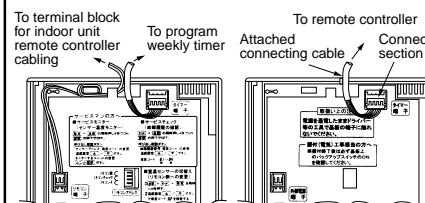

Fig. 3
1. Connect the attached connecting cable to the timer terminal (4P connector) of the program weekly timer. (Fig. 3)